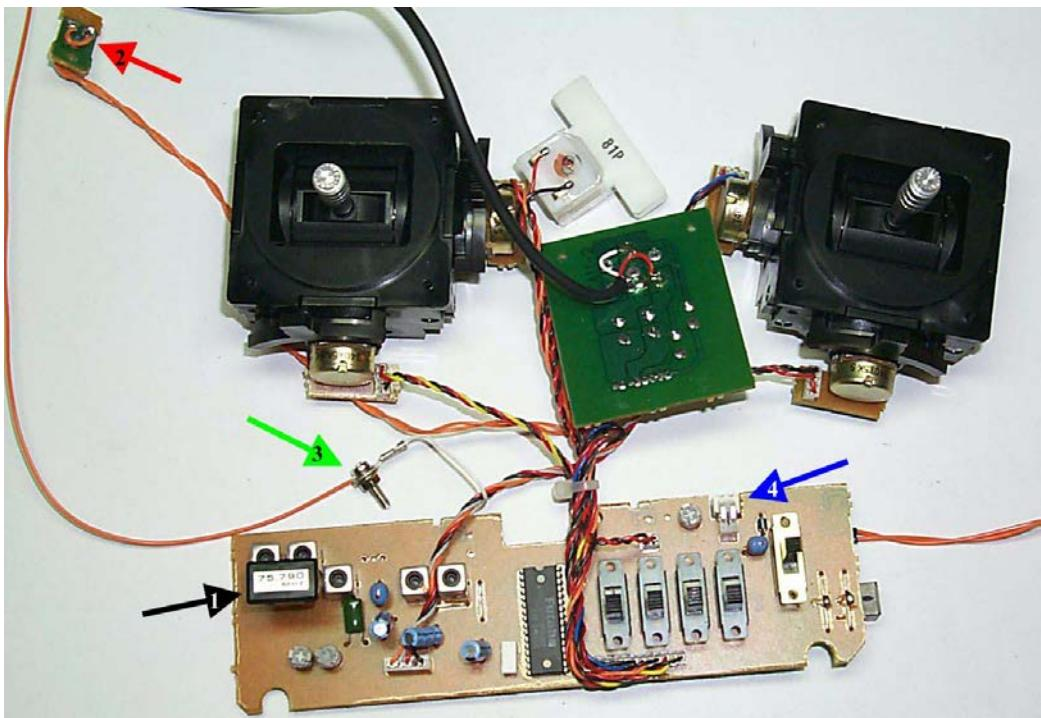

Figure 7 – A transmitter spills its guts!
Now you should have all the electronics out of the case as shown in Figure 7 above. *Do not turn the adjusting screws in the silver metal cans or on the plastic adjustable resistors.* If you do, the transmitter will no longer work properly.
There are a few things to note in figure 7. The red arrow (2) points to the trainer switch board; you can see the orange jumper wire across the switch terminals. The green arrow (3) points to the antenna connection to the orange extension wire using the antenna mounting hardware. The blue arrow (4) points to the power connection from which you unplugged the battery and to which you will connect the external power supply.